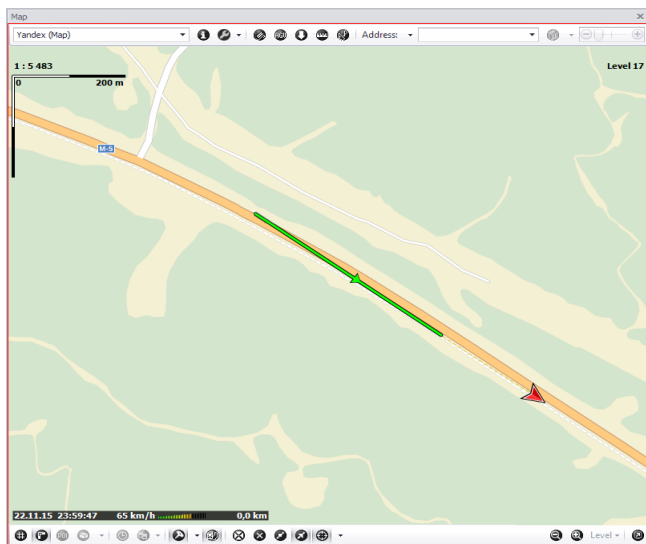

Fig. 74. Dotted line on the track.
- If long time has passed between the neighboring track points, then the track in the map may be replaced with a dotted line connecting those points. The dotted line appearing on the track may mean absence of coordinates or poor reception condition and, consequently, unreliable coordinates. An example of the dotted line connecting the track points is given in Fig. 74.